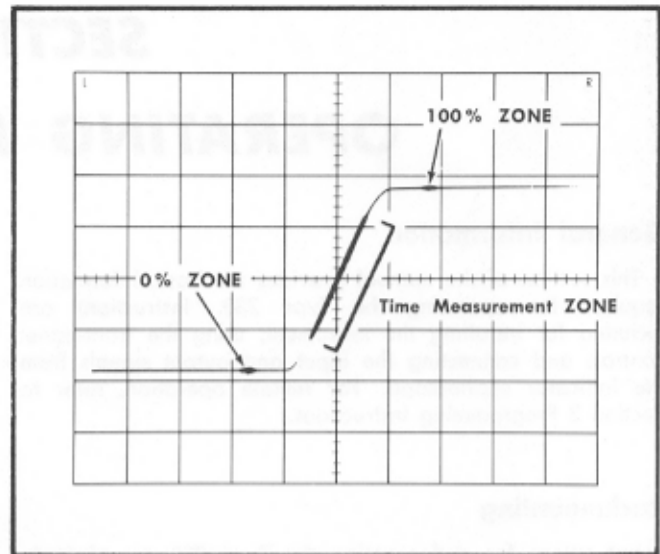

Fig. 2-3. Three types of intensified zones.
3. To convert to a different line voltage, pull out the Voltage Selector switch bar (Fig. 2-3), turn it around 180° and plug it into the opposite set of holes. The Voltage Selector switch bar will be in the upper position for 115-volt operation and in the lower position for 230-volt operation.
**ZONES.** The Type 230 produces three intensified zones on Channel A and/or Channel B trace of the Type 568 Oscilloscope; the 0% zone, the 100% zone and the time measurement zone. Each zone appears as a brightened portion of the trace (Fig. 2-3).